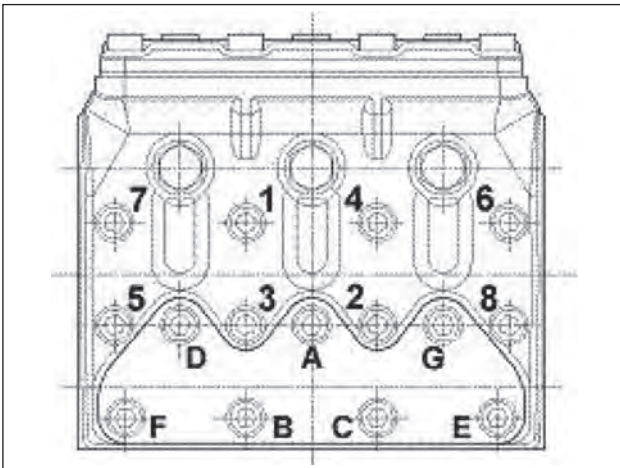

Fig. 24
- ** The head fixing screws must be tightened with a torque wrench, lubricating the underhead, respecting the order in Fig. 24.
- *** The valve cover fixing screws must be tightened with a torque wrench, lubricating the underhead, respecting the order in Fig. 24.